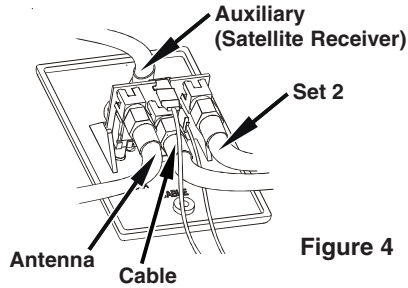
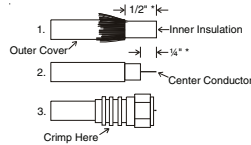

Figure 4
Figure 5
STEP 4. Install connectors on download and set 2 cable as shown in Figure 5. Attach download cable to jack on wall plate/power supply marked antenna as shown in Figure 4. Attach cable going to set 2 outlet to jack on power supply marked SET 2. Attach cable coming from cable input to jack on power supply marked CABLE.